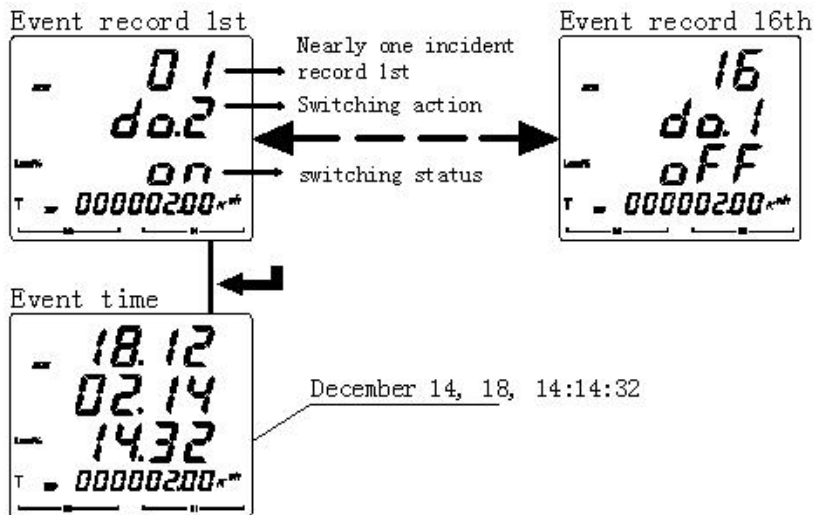

Figure 22
5.2.7 View the DEMP-AC3-DXX-E event record parameters as shown in Figure 22.